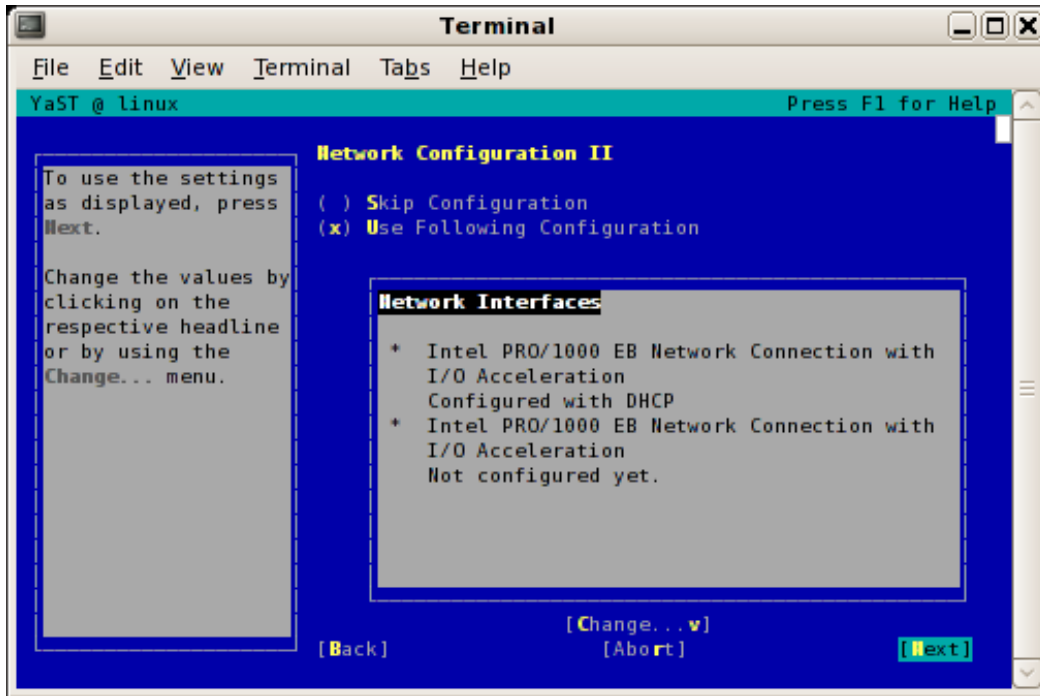

Figure 2-4 Network Card Configuration Interfaces Screen
8. From the **Network Card Configuration Interfaces** screen, shows the suggested configuration as shown in Figure 2-4 on page 32. Click **Next** to continue.